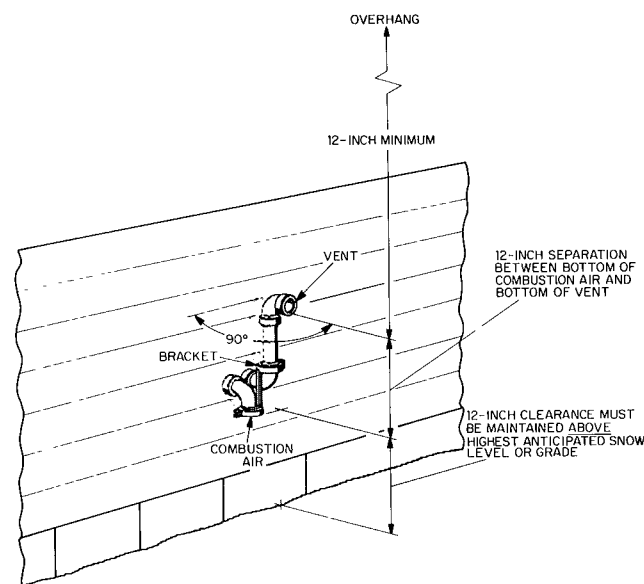
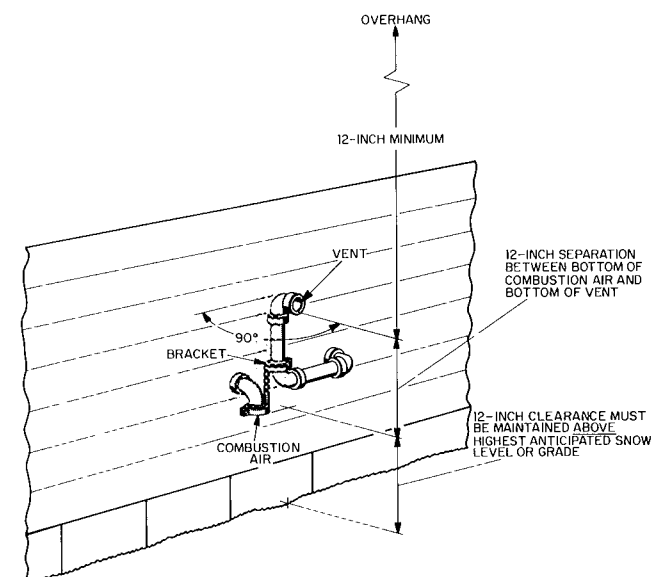

Fig. 4 — Sidewall Termination Above Snow Level or Grade (Preferred)
Fig. 5 — Sidewall Termination Above Snow Level or Grade (Option)
NOTE. The arrangement in Fig. 4 is preferred. The arrangement in Fig. 5 is an option for the vent pipe only.
3. Install elbows as shown in Fig. 4 or 5 using same procedures for cementing as used for system piping
4. Install bracket as shown in Fig. 4 or 5.
- 5 Position vent pipe assembly so as to maintain 12-in. separation between vent pipe outlet and combustion-air inlet. Cement vent pipe in elbow as shown in Fig. 4 or 5.
6. For applications using vent pipe option as shown in Fig. 5, rotate elbow 90 degrees from position shown in Fig. 4.